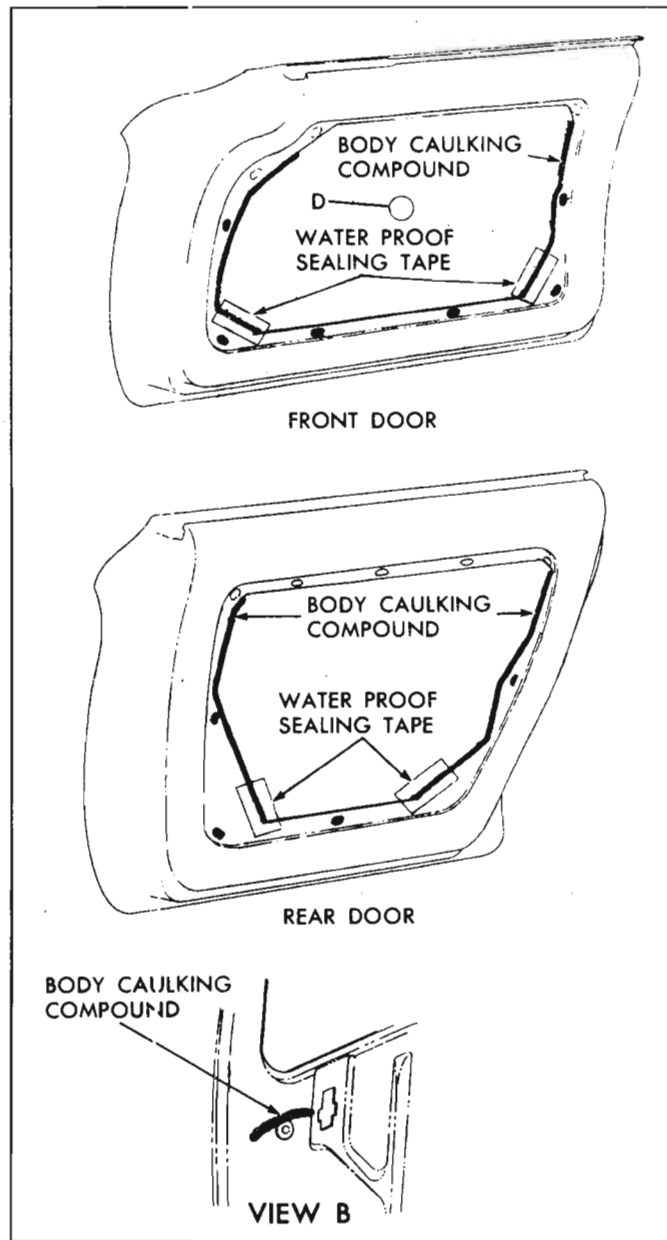

Fig. 10-44—Door Panel Sealing
2. Remove strips of waterproof body tape securing lower corners of water deflector (see fig. 10-44).
ter) to door inner panel along line contacted by front and rear edges of water deflector (see fig. 10-44).
5. Seal lower corners of deflector with 2" or 2½" waterproof body sealing tape (see fig. 10-44).